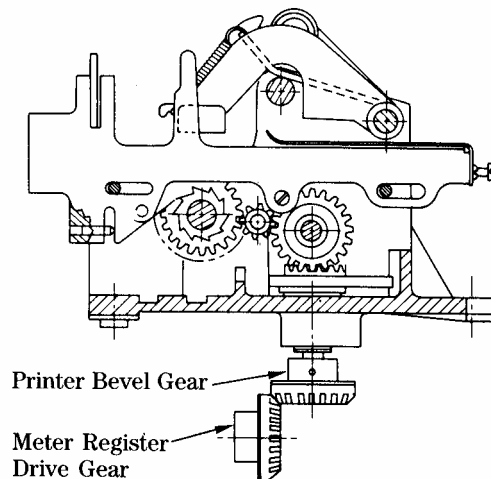

Figure 20. Ticket Printer / Meter Register Backlash Adjustment.
9. install the ticket printer on the meter register with four 1/4 inch lockwashers and four 1/4-28 x 3/4 inch hex socket head cap screws. Loosen the printer bevel gear set screw and adjust for proper backlash between the printer bevel gear and the meter register drive gear as necessary (Figure 20).